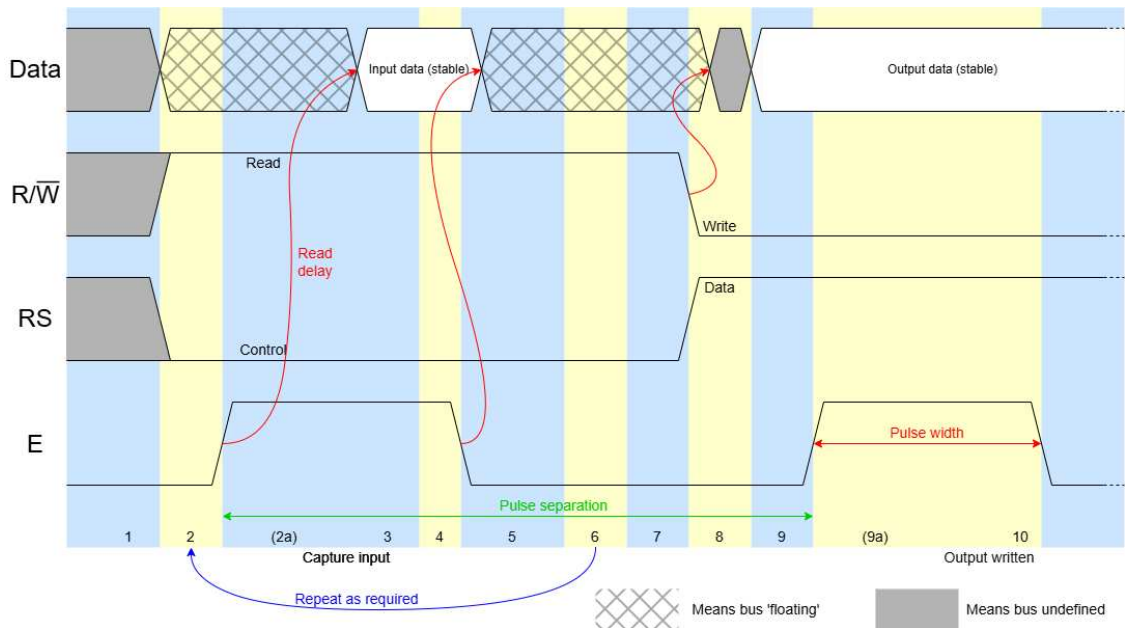

Figure 7.2: LCD character output sequence
- Each command/write takes time to process and a subsequent command cannot be issued (successfully) until the current command is complete (fig. 7.2).
However the second option (fig. 7.2) does require some feedback from the LCD. To obtain this the LCD control register must be read and bit 7 will then indicate the controller's status (0=idle, 1=busy).
The action of this on the interface signals is illustrated in figure 7.2. It all sounds like a lot of fiddling about, but each step is only one or two instructions. Once the routine is written it can be used to output all the characters you'll ever need.